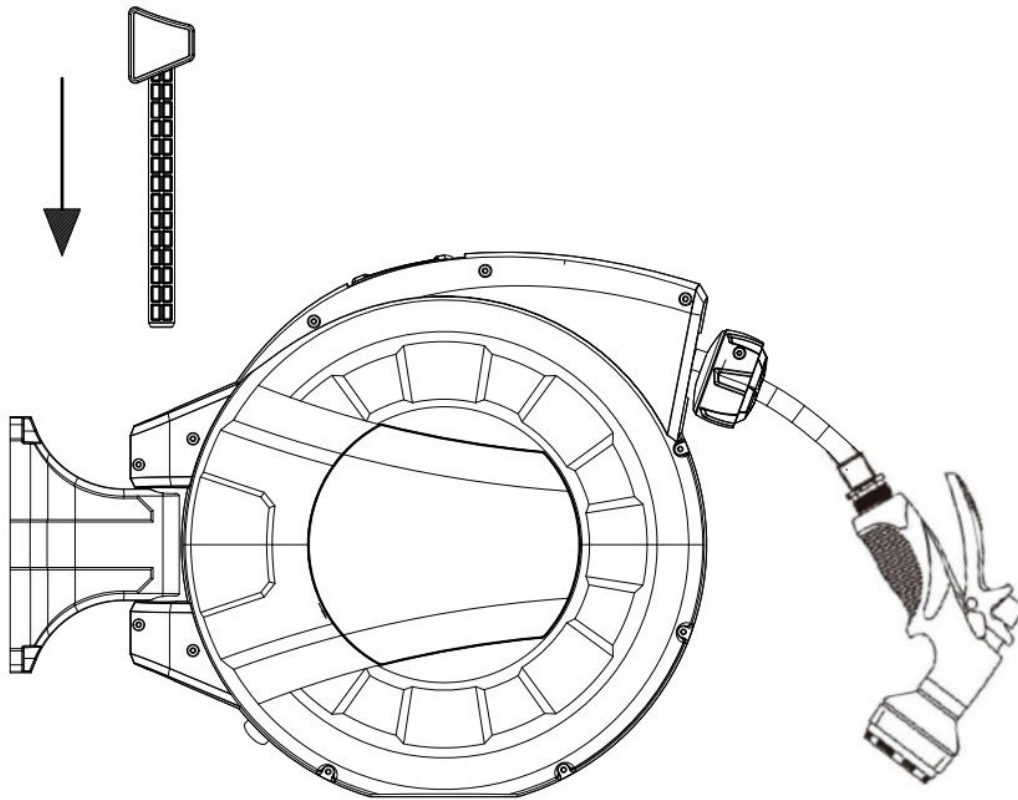

Fig.3
- 5.Connect the reel to the mounting bracket.(Fig.3)